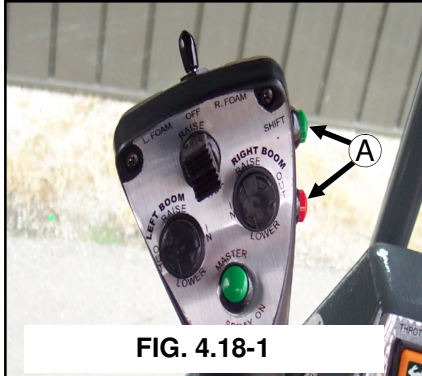

FIG. 4.18-1
1. Speed ranges are selected by a red (decrease speed range) and green (increase speed range) electronic switch mounted on the hydrostatic lever (fig. 4.18-1, item A). The lower the setting, the higher the torque, but the lower the speed.